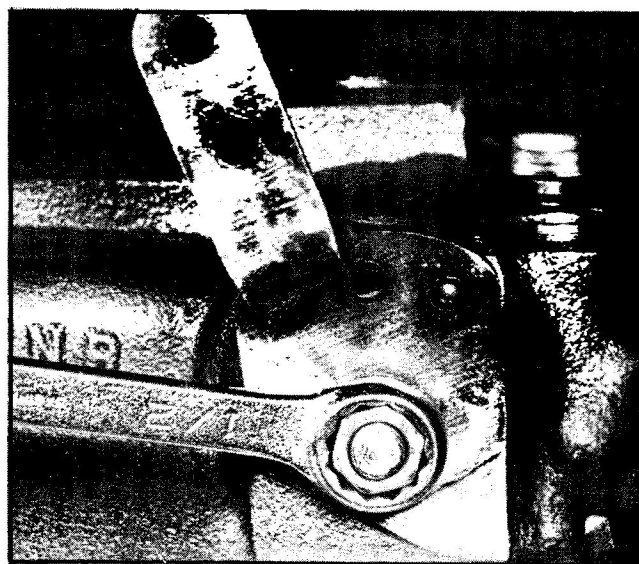

Fig. 18 Remove Shift Lever Nut
12. Remove nut, lock washer and flat washer from shift lever, then remove shift lever, (Fig. 18).